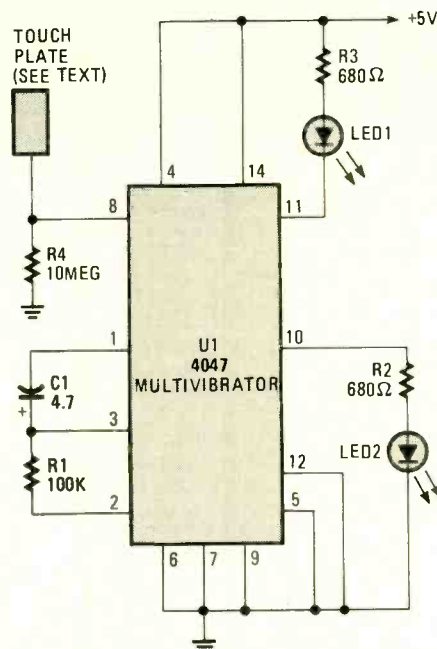
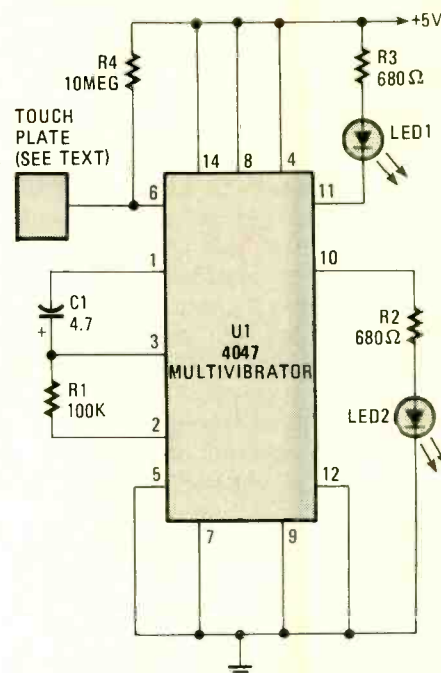

Fig. 1. The Negative-Triggered Touch Circuit is built around a 4047 monostable/astable multivibrator.
Fig. 2. The Positive-Triggered Touch Circuit is nearly identical to the negative version.
In Fig. 1, the 4047 is configured as a monostable multivibrator circuit (or one-shot) that is set up to trigger on a negative-transition of the signal ap-
**Positive-Triggered Touch Circuit.** If you wish to trigger the multivibrator with a positive pulse use the circuit in Fig. 2. All of the component values are the same for this circuit as those used in Fig. 1, and both circuits perform in the same manner.